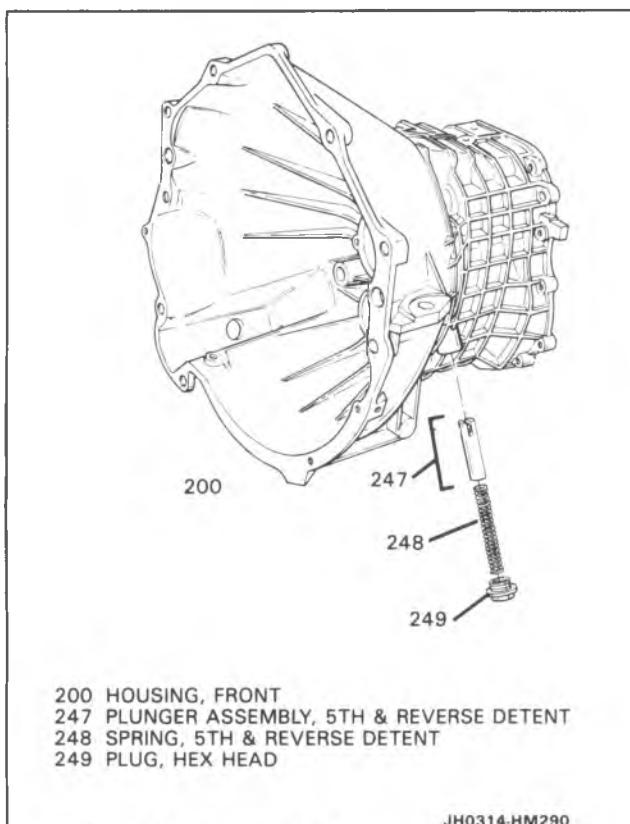

Figure 49 Removing 5th-Reverse detent plunger assembly
7. Hex head plug (249), 5th-reverse detent spring (248), 5th-reverse detent plunger assembly (247) (Figure 49).